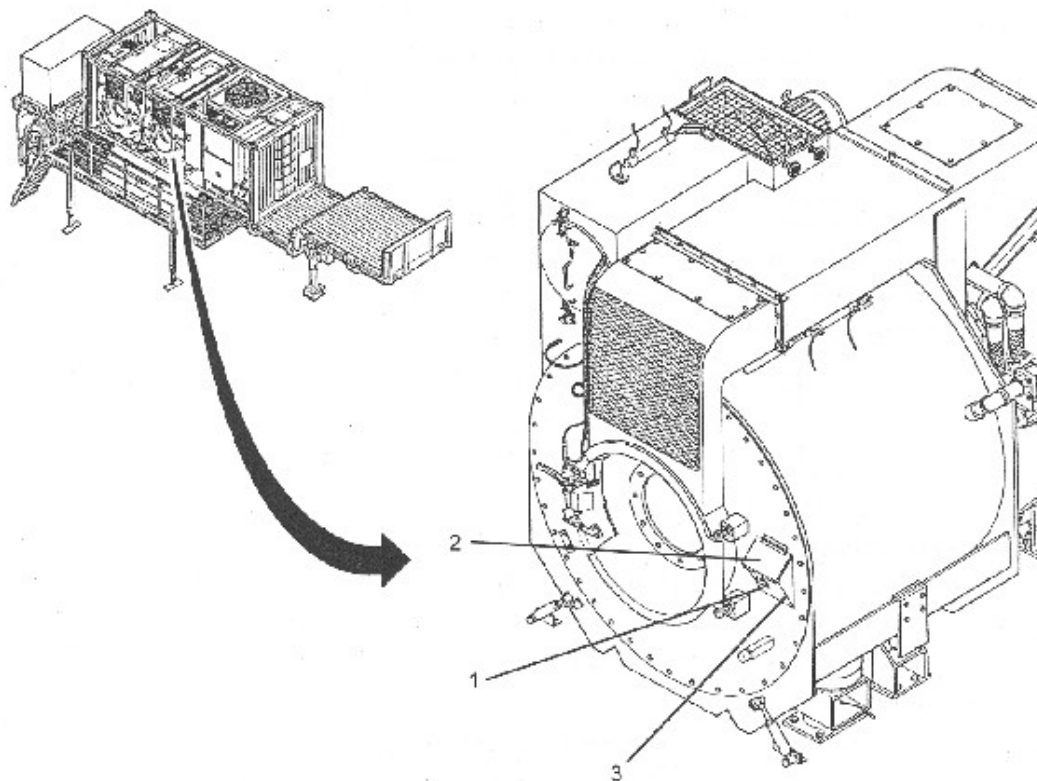

Figure 3-50
- g. Monitor display (6), it should read: Cycle Paused; Add FRS or Sanitizer
- k. Press MENU SELECTION switch to continue cycle. Proceed to complete laundry cycle. (See Figure 3-50)